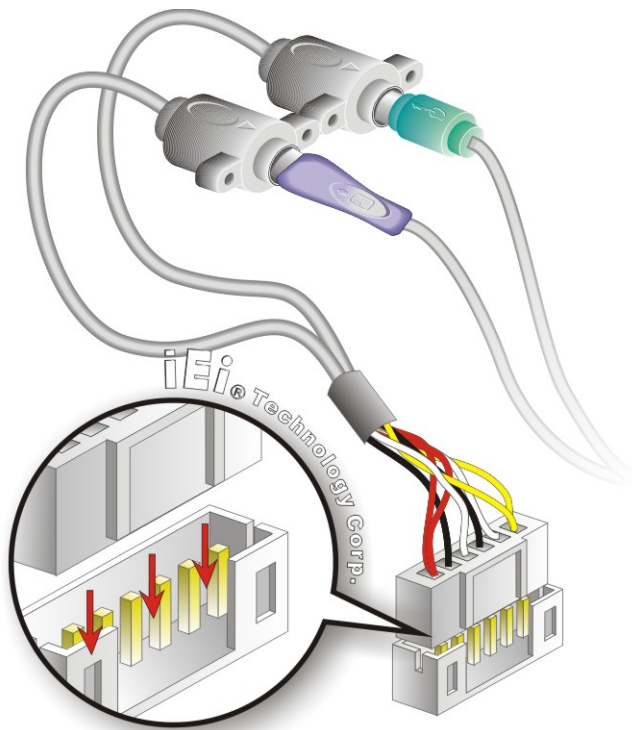

Figure 4-14: Keyboard/mouse Y-cable Connection
- Step 7: Align the connectors.** Correctly align pin 1 on the cable connector with pin 1 on the NANO-PV-D510A keyboard/mouse connector. See Figure 4-14.
- Step 8: Insert the cable connectors** Once the cable connector is properly aligned with the keyboard/mouse connector on the NANO-PV-D510A, connect the cable connector to the on-board connectors. See Figure 4-14.